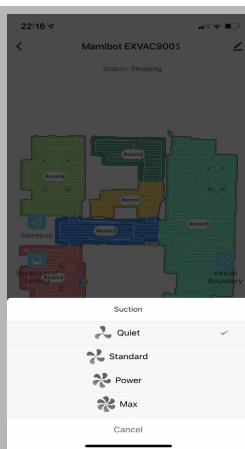

Fig.19
- Users can set the vacuum suction with quiet, standard, power and Max level (Fig.19).